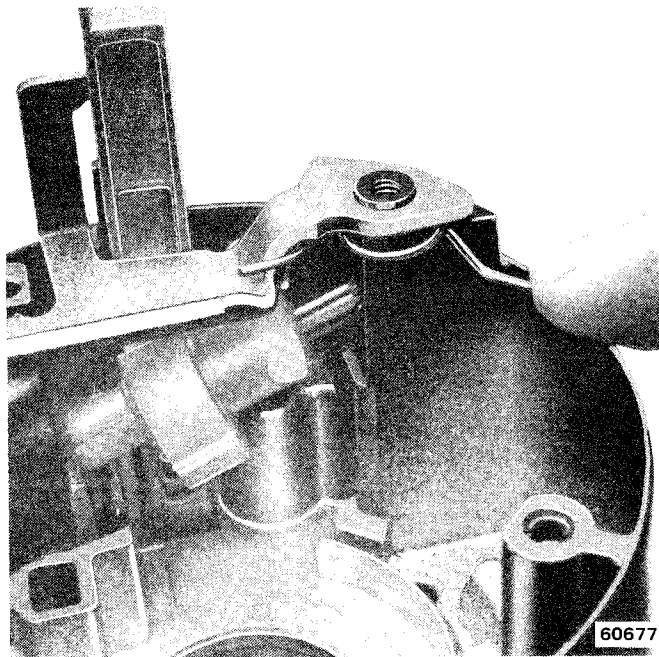

Fig. 2J-21 Securing Key Release Lever Spring
(11) Install assembled shroud and housing on column and install attaching screws (fig. 2J-10). Tighten screws to 60 inch-pounds torque.
(12) Install lock cylinder in housing. Insert key in lock, hold cylinder sleeve, and rotate key clockwise until key stops (this retracts actuator).
(13) Insert lock cylinder in housing bore with cylinder tab aligned with keyway in housing. Push cylinder inward until it bottoms. Rotate key counterclockwise until drive section of cylinder mates with sector. Push cylinder in fully until tab engages in housing groove.
(14) Turn lock cylinder clockwise to stop, then counterclockwise to stop at Off-Unlock position.
(15) Install ignition switch as follows: